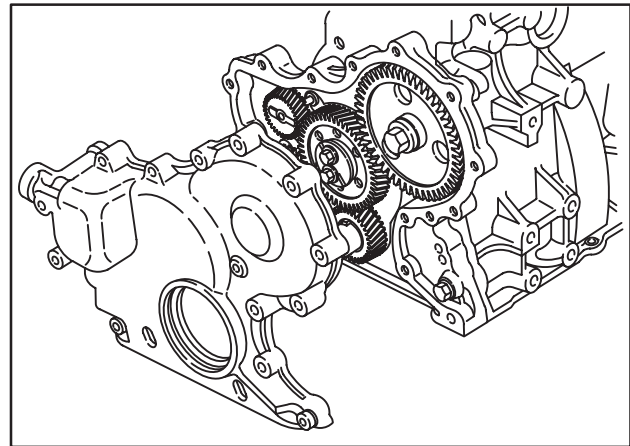

Fig. 9 – Removing Timing Gear Cover
4. Remove trigger and wire. Remove timing gear cover, Fig. 9.